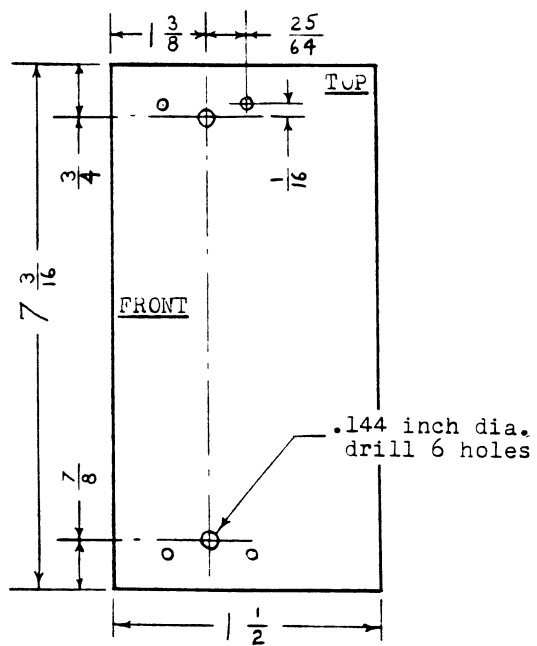

Figure 1. Template-Handle mounting
- (1) Handle assembly #25044 is replaced by handle #33779-G1 and requires the use of two new handle brackets #30374-P1, two handle bracket nuts #30375-P1, and two screws #104B6R8.
- (2) To position the handle brackets, place the template (Fig. 1) on the left side of the camera, align the top, bottom, and front of the template with the camera and drill six 0.144" holes as indicated. Position handle bracket nuts from inside of camera case and clip off the ends protruding from outside of camera box until approximately 1/32" of the end protrudes. Mount handle bracket and secure with screw.